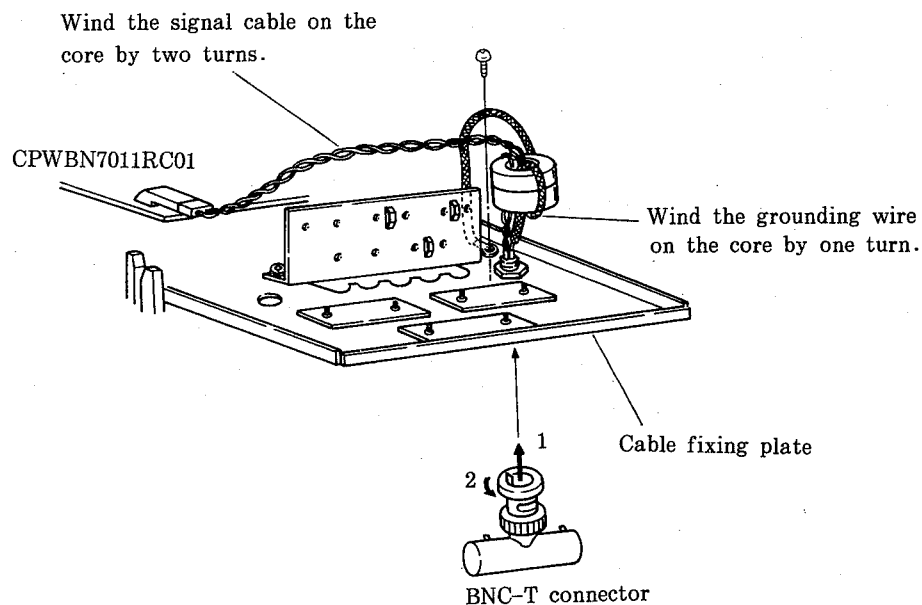

Fig.29
- (7) Wind the internal branch cable on the ring core (RCORF6629RCZZ) (2 turns), and connect the internal cable to the connector on the inline control board. (See Fig.29.)
- (8) Use the fixing screw to connect the grounding wire of the internal branch cable to the cable fixing plate. (See Fig.29.)
- (9) Connect the BNC-T connector to the internal cable. (See Fig.29.)